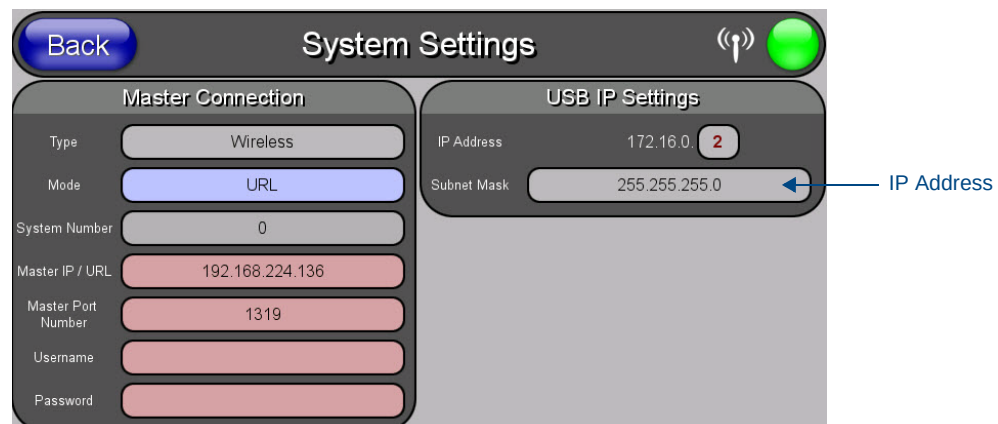

FIG. 29 IP address location on the System Settings Page
- Under *IP address*, provide an IP address, ensure that it is in the same subnet as the IP address given to the USB interface on the device. The IP address for the device can be located on the *Systems Settings* page of the *Protected Settings* menu, as shown in FIG. 29. (For more information, refer to the *Protected Setup Pages* section on page 53.)